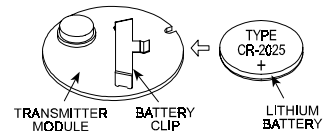

Figure 6. Battery Insertion
C. Slide the old battery from under the clip in the opposite direction to the arrow shown in Figure 6.